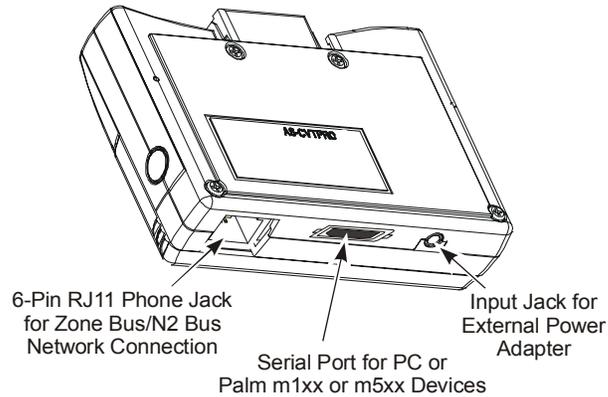

Figure 7: CVTPRO Converter Back
The back of the CVTPRO converter (Figure 7) has ports for connections to a Personal Computer (PC), a Palm handheld PDA, an External Power Adapter, and a Zone Bus/N2 Bus RJ11 6-pin network cable phone plug.
3. Connect the 3-pin or 4-pin N2 plug that was disconnected from the controller in Step 2, to the 4-pin N2 socket on the CVTPRO converter cable. (See Figure 7.) Observe proper polarity (N2+ is blue, N2- is white, Ref is red).